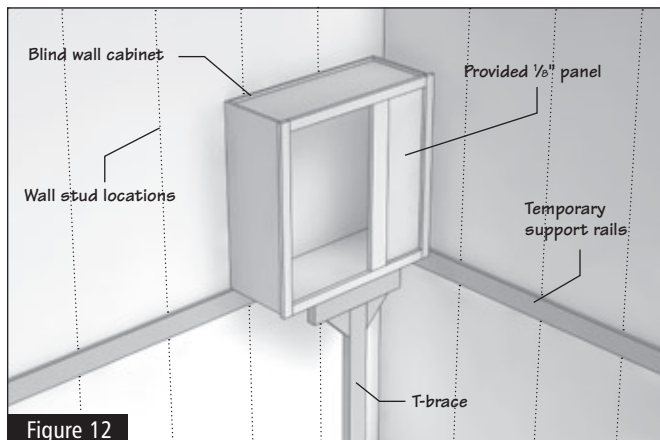

Figure 12
- 3.7** If there is a blind corner cabinet, the opening should be sealed at this point with the  $\frac{1}{8}$ " panel packed inside the cabinet. Pre-drill for small finishing nails or use a pin nailer. (Figure 12)